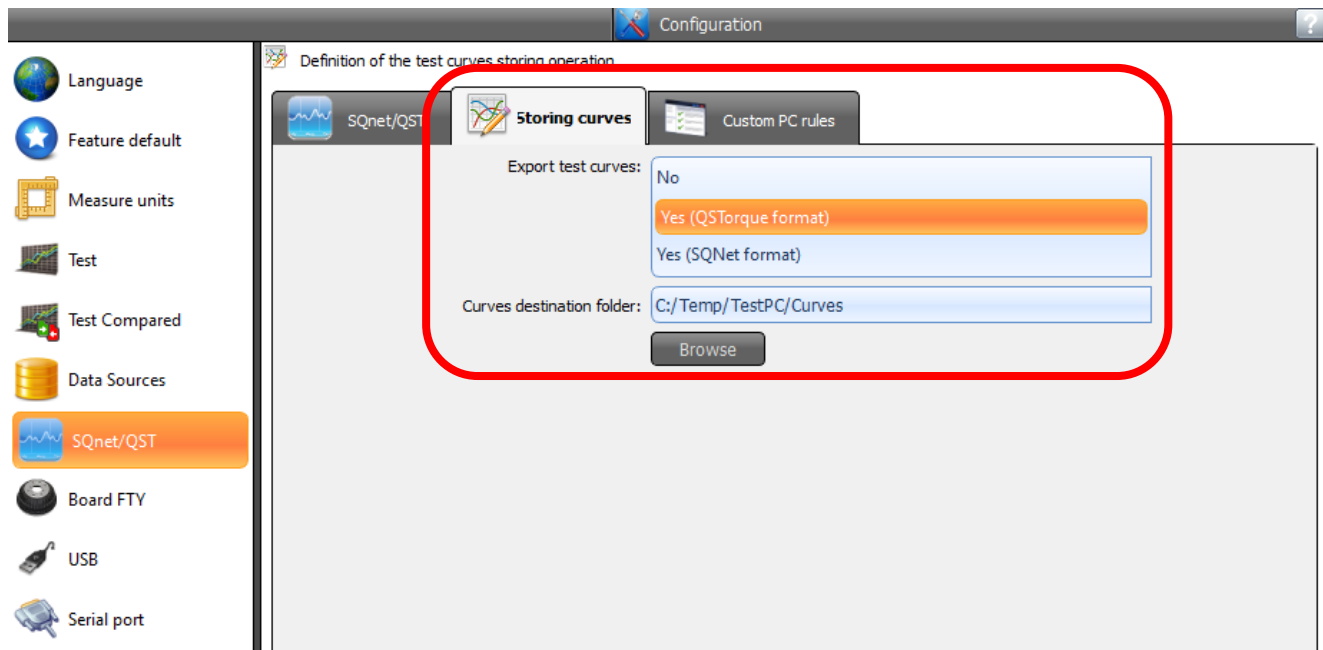

Figure 7
- in the **Configuration/SQNet/QST** has been added the **Storing Curves** section (See **Figure 7**). With this user interface, when a test is executed by an external software, is possible to configure if the tightening curves corresponding at every result must be exported to file or not. If the trace must be exported is possible to configure the storing path and the format of the files. It may be the **QSTorque format** (ASCII file having extension **.txt**) or the **SCS format** (binary format having extension **.crv**). Every time that the Data.Pro starts, all files present in the output path of the tightening curves, are removed. Instead, in base at the output format chosen, the corresponding files are removed before the start operation of the test. This means that the files must be read from the external software caller before to launch the execution of the next test otherwise they will be lost.